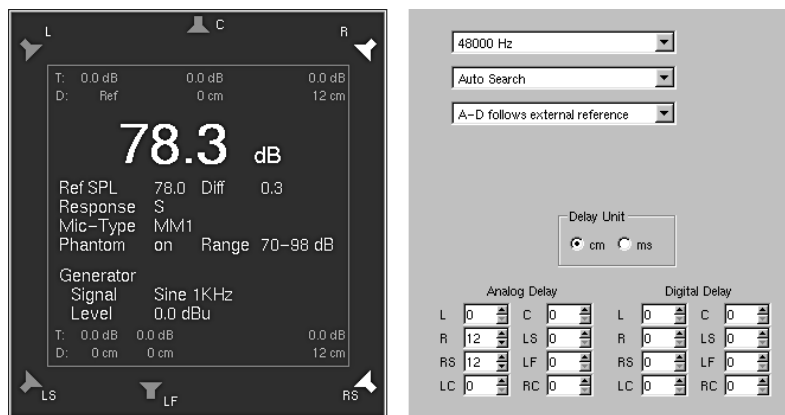

Fig. 4-21: Comparison of the entered positive delay values in the Cal instrument and the displayed values on the Audio System menu card
- Entering positive values in the Cal instrument delays the selected channel and moves it back acoustically. The corresponding values are also displayed on the Audio System menu tab in the list boxes for the delay (see Fig. 4-21 and Chapter 3.11.3).